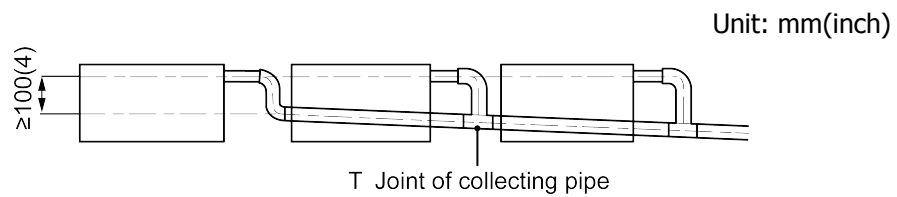

Fig.4.37
(4) When multiple drainage pipes are connected together, connection pipes as shown in Fig.4.37.